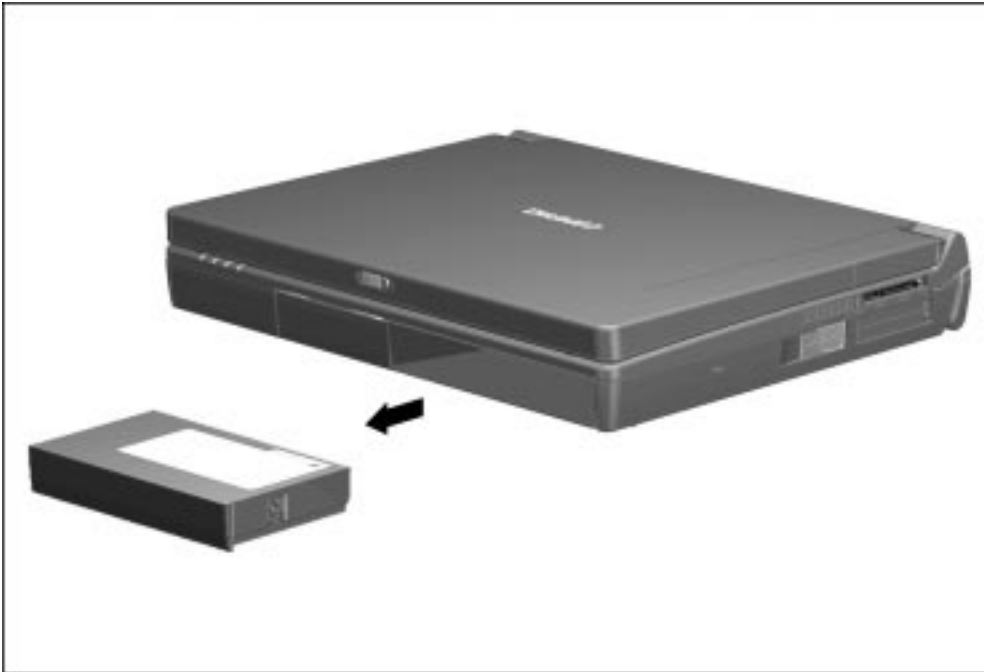

Figure 5-11. Removing a Battery Pack from the MultiBay
6. Pull the battery pack out of the MultiBay (Figure 5-11).